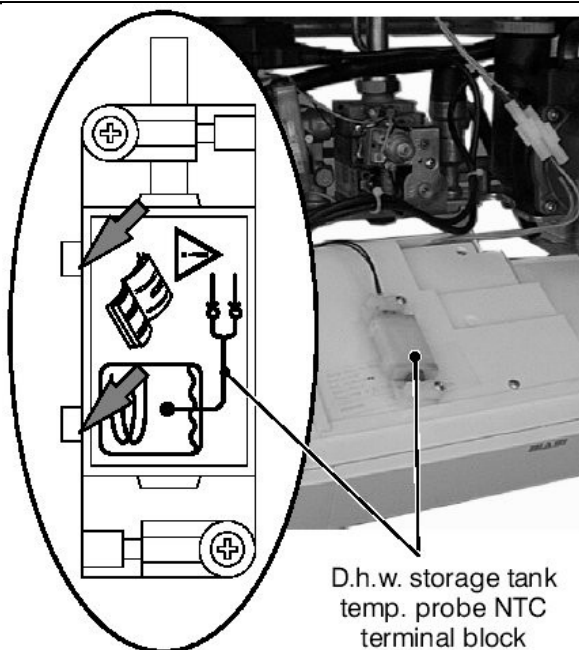

Fig. 5.40
- Insert a small flat-bladed screwdriver into the two slots indicated in Fig. 5.40. Lever upwards gently with the screwdriver so as to unfasten the probe terminal block cover by rotating it upwards